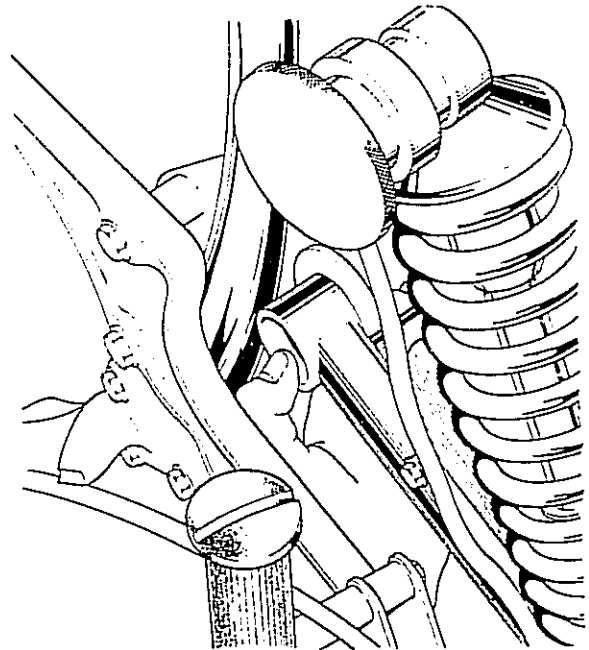

Fig. F7 Swinging arm offered into position with end cap held in place with grease
- 24 The left side pivot end cap must be held or "stuck" in position with a dab of grease as the swinging arm is positioned (see Fig. F7). Push the swinging arm forward so that the left end cap is held in position by the inner chaincase.